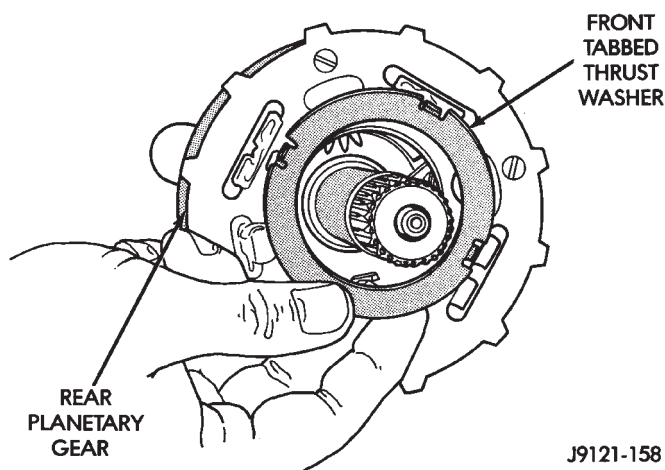

Fig. 82 Installing Rear Planetary Front Thrust Washer
(6) Install front thrust washer on rear planetary gear (Fig. 82). Use enough petroleum jelly to hold washer on gear. Be sure all four washer tabs are seated in slots.